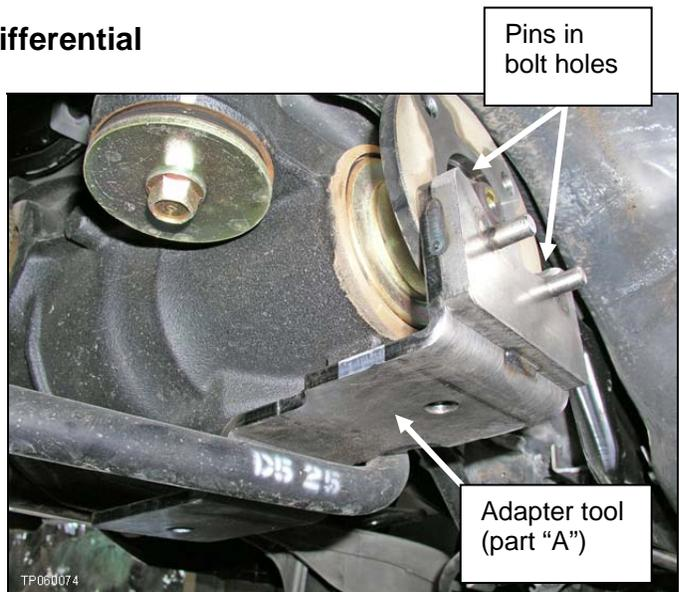

Figure 23
- a. Install part "A" of the adapter tool onto the pinion flange. Make sure both pins on the tool are inserted into the pinion flange bolt holes (see Figure 23).